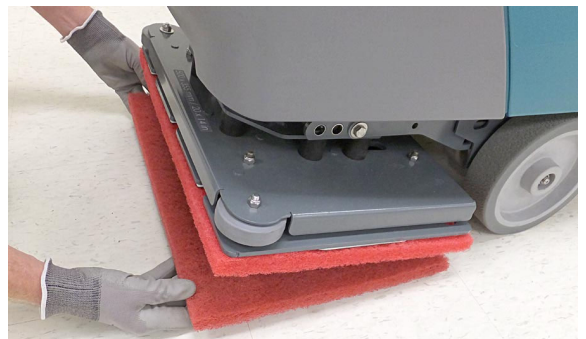

FIG. 21
- Attach the work pad to the backer pad (Figure 21).